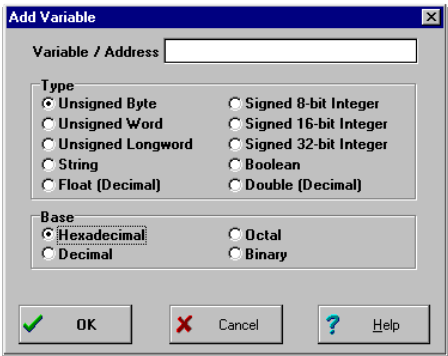

Figure 6-7. Add Variable Dialog Window
- **Add Variable** — Choose this option to open the **Add Variable** dialog (**Figure 6-7**) to add a variable or address to the current variable list. Select the variable type (size) and base.
Enter values for commands in the simulator as either labels (which the user has defined in the map file or with the SYMBOL command) or as numbers. Specify the base in which variables are shown using the options in the **Add Variable** dialog (**Figure 6-7**). The default number format for the ICS08GPW is hexadecimal.